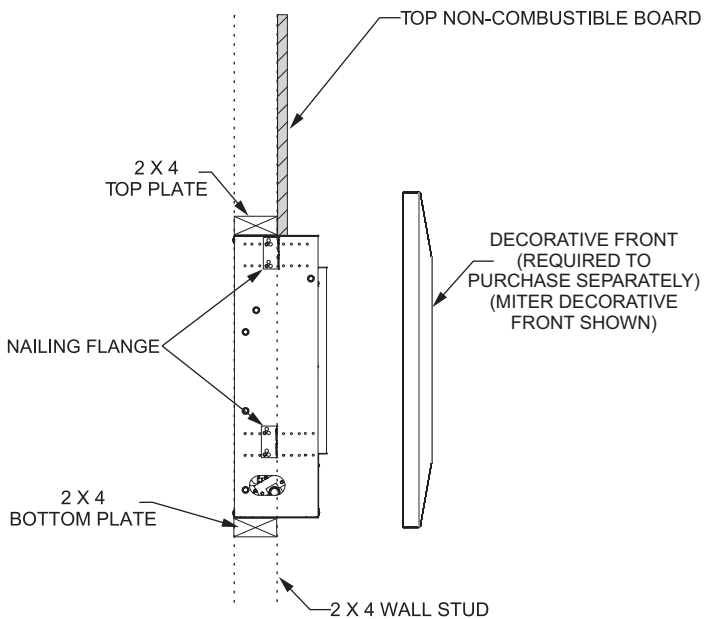

Figure 34
26. Install decorative front by inserting hook on the front above the top opening in the fireplace. Verify that the decorative front is level and fully seated. See **Figure 34**.